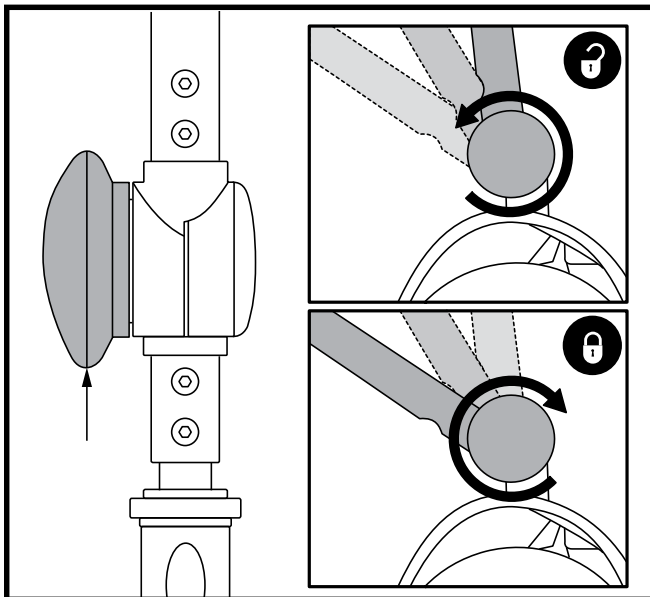

Figure 24. Tiller Adjustment Knob
## TILLER ANGLE ADJUSTMENT (See figure 24)
1. With the seat and battery pack removed (see Disassembly Procedures on previous page), lower the tiller and tighten the tiller adjustment knob. See figure 24.